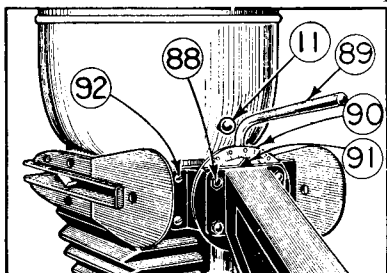

Figure 15
56. The calibrated swivel, with its engraved scale, illustrated in Figure 15, allows the head of the enlarger to be swung from vertical to a horizontal position, either left or right, and indicates the degree of the angle attained. When the locking lever (89) is loosened, and the enlarger head turned, the swivel will click into the (0°) vertical, and the (90°) horizontal positions, assuring perfect alignment without checking. Keep the locking lever (89) always in a closed position when using the enlarger. For ordinary use, always be sure the swivel is locked in the zero position.